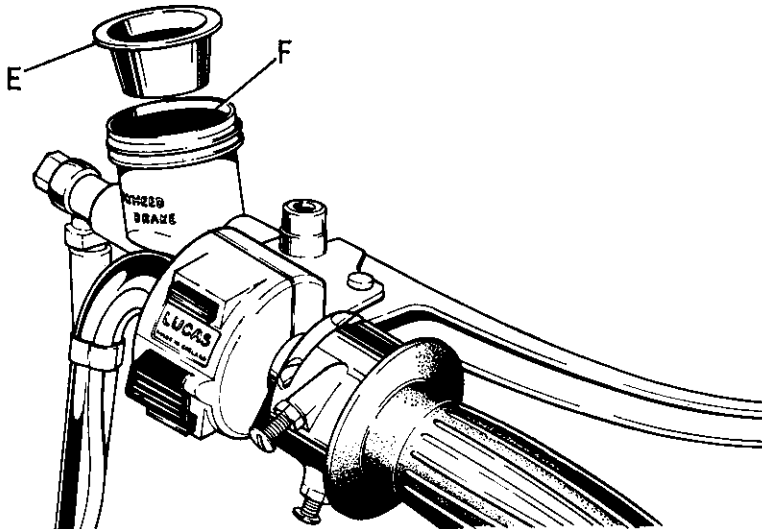
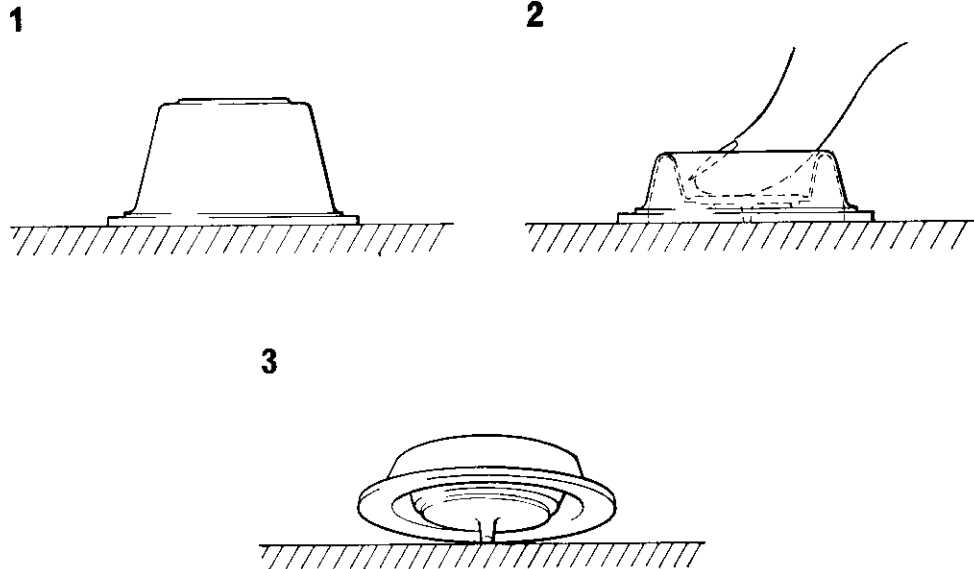

Fig. F25. Showing the brake reservoir fluid level and cap.
Fig. F27. Folded condition of rubber diaphragm
The brake fluid level in the master cylinder reservoir should be as shown in Fig. F25. (F). There is a mark running around the inside periphery of the reservoir about $\frac{1}{4}$ " (6.35 mm) from the top. During the life of the brake pads it will not be necessary
immersed in at least ½ in. (12.7 mm) of brake fluid. Remove the screwed cap from the master cylinder reservoir and take out the rubber diaphragm “E” Fig. F25. Now slacken the bleed nipple ½ to ¾ of a turn, (with the bleed pipe still attached).
Remember to maintain the level of hydraulic fluid in the master cylinder during the entire operation. The correct level for the fluid is shown in Fig. F25 at "F". This will be the correct level when the brake pads are NEW. When replacing the rubber diaphragm (Fig. F25 "E") it will be easier to replace the cap with the diaphragm in a folded condition. See Fig. F27.
If at any time it has been necessary to replenish the system with hydraulic fluid during the life of one set of brake pads, remember that when new pads are fitted the fluid level will rise appreciably in the cylinder and may spill onto the gas tank. Therefore the level will have to be corrected to that shown in Fig. F25 (Hydraulic fluid instantaneously corrodes cellulose paintwork and great care should be exercised when handling this fluid).